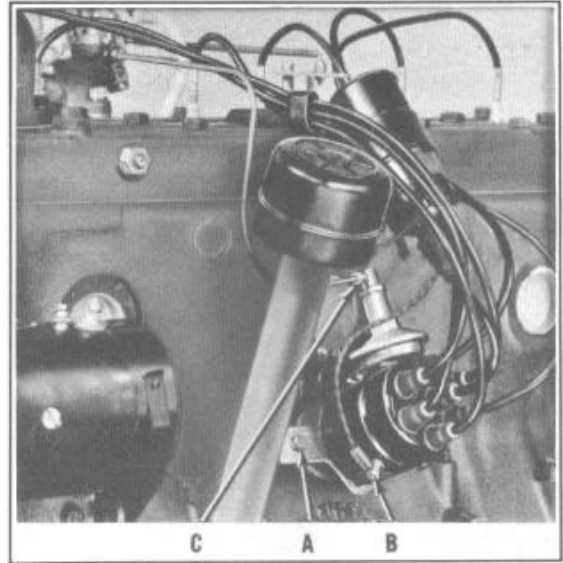

FIGURE 16
2. Disconnect vacuum line (C), Figure 16 and distributor primary wire (B).